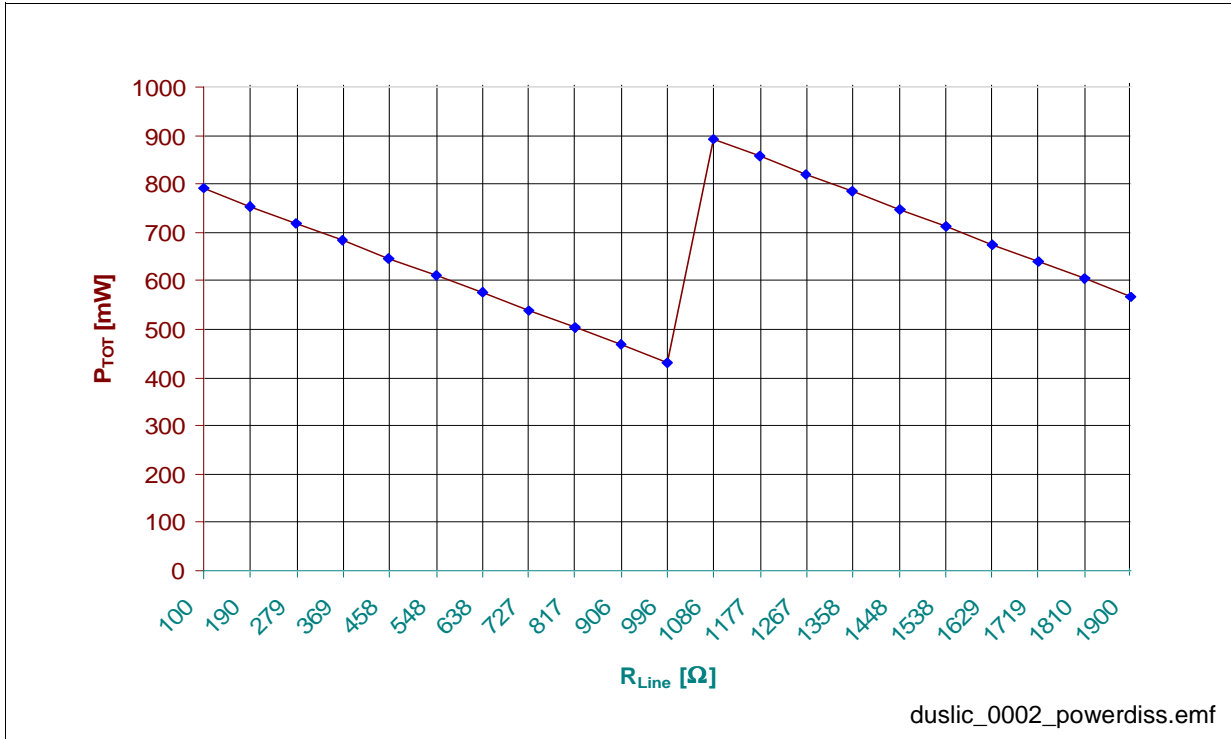

Figure 41 SLIC-E/-E2 Power Dissipation with Switched Battery Voltage
**Figure 41** shows the total power dissipation  $P_{\text{TOT}}$  of the SLIC-E/-E2 in Active Mode (ACTH and ACTL) with switched battery voltage ( $V_{\text{BATH}}$ ,  $V_{\text{BATL}}$ ) as a function of  $R_{\text{Line}}$ . The power dissipation in the SLIC is strongly reduced for short lines.